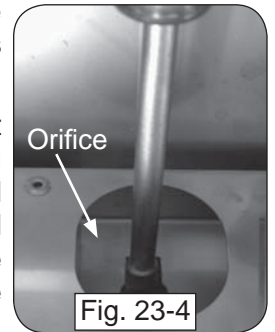

Fig. 23-4
5. Use a $\frac{3}{8}$ " hex nut driver to remove the exposed orifice (Fig. 23-4) and replace it with the correct orifice for the new gas. (See Table 1 at the beginning of this document for orifice sizes.)